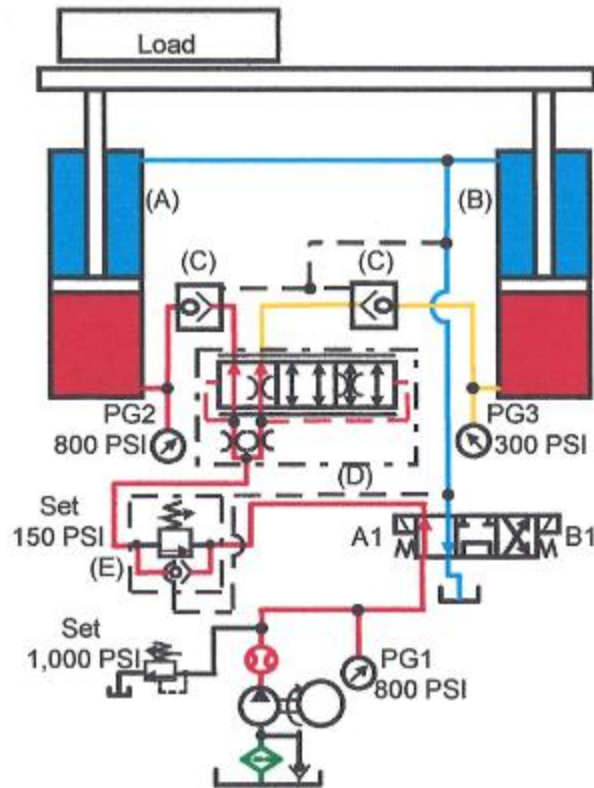
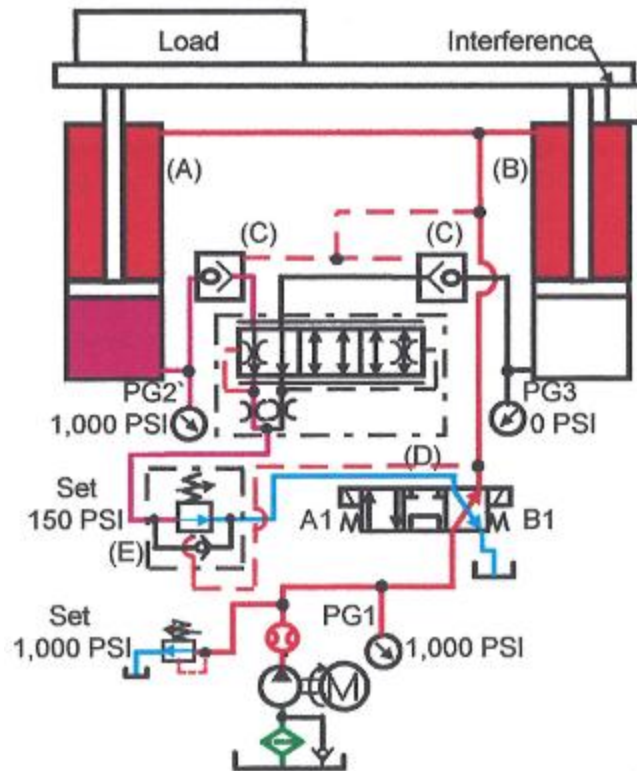

Figure 22-22. Spool-type flow-divider/combiner synchronizing circuit. Solenoid A1 energized, extending.
Figure 22-24. Spool-type flow-divider/combiner synchronizing circuit. Solenoid B1 energized, retracting.
In Figure 22-22, the cylinders are extending. Shifting solenoid A1 on the directional valve sends oil to the flow divider, which sends half pump flow to each cylinder. Even when there is a pressure difference at the cylinders, flows are close to equal. The cylinders extend at about the same rate even with an off-center load. Each cylinder must develop enough force to lift the load above it. If one cylinder reaches its force limit and stops, the opposite cylinder tries but does not completely stop -- due to internal leakage past the flow divider spool. (Figure 22-24 shows the condition of the flow divider when cylinder (B) stalls as it retracts.)